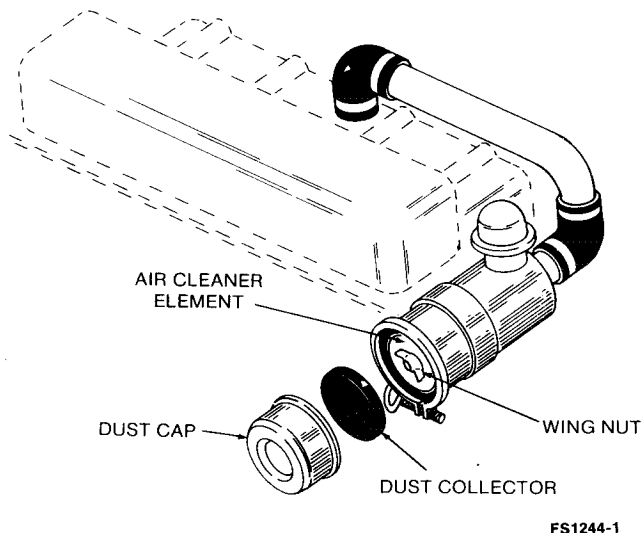

FIGURE 5-6. HEAVY DUTY AIR CLEANER
1. Remove the dust cap (see Figure 5-6).